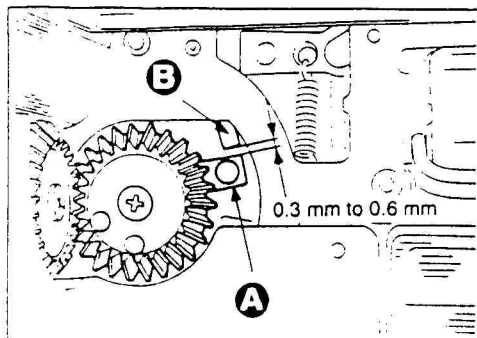

Fig.1
1. Wind up the wind-up crank until the space between the second curtain charge gear (A) and the hook (B) of the second curtain becomes 0.3 to 0.6 mm, at this time, the clutch (C) of the wind-up substrate must get out of the gear.
Loosen the screw (D) and adjust the position of the stopper (E) so that the clutch works at the timing as described above. (See Fig. 1.)